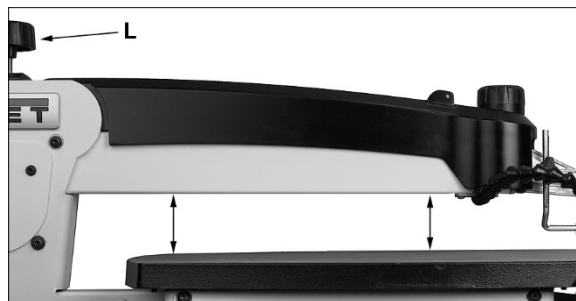

Figure 22: arm/table parallelism
Refer to Figure 22.
- First verify that upper arm is parallel to table surface (Figure 22). Push arm down, and measure at front and back of arm; if measurements are different, rotate arm adjustment knob (L) until upper arm is parallel.